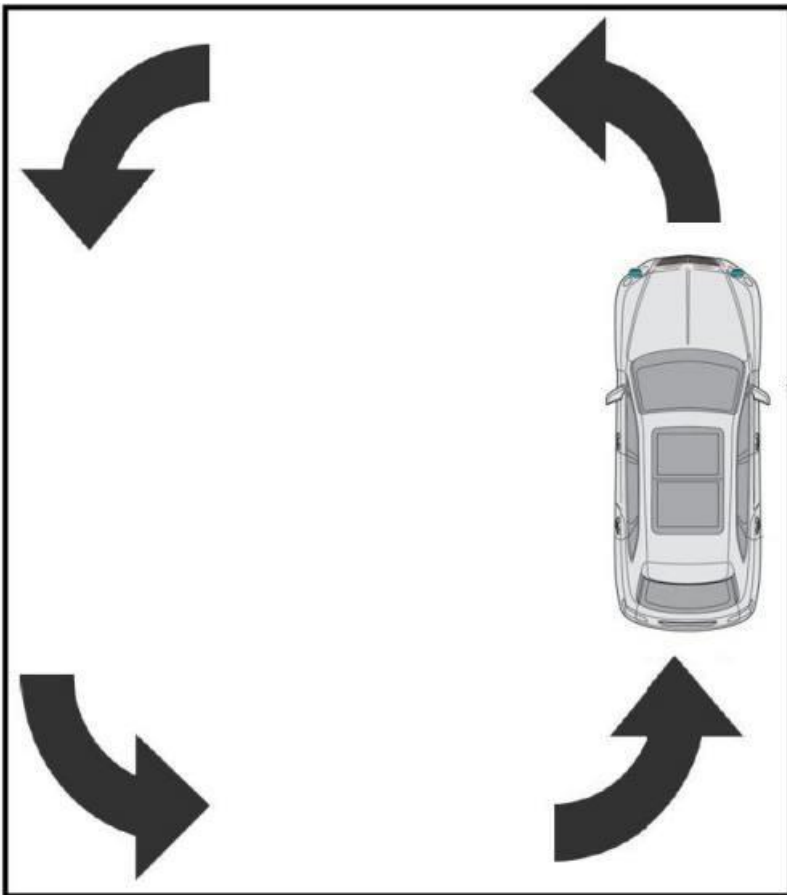

Figure 1
- Referring to Figure 1 - With the vehicle in a stationary position - Apply the footbrake – Turn the steering wheel to full left lock (hold the steering wheel onto the lock stop)